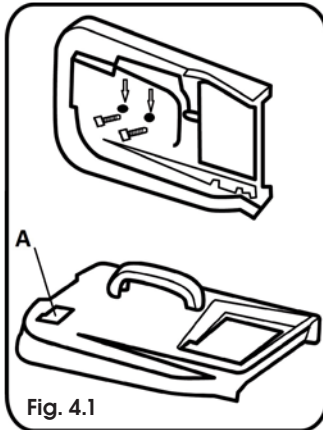

Fig. 4.1
- ✿ Attach the handle to the top part of the grass catcher using the included screws. Figure 4.1
⚠ ATTENTION: The grass catcher is equipped with a full indicator. Figure 4.1, point A. If the flap is lifted, the grass catcher is not full. Otherwise, it is necessary to tip out the grass catcher.